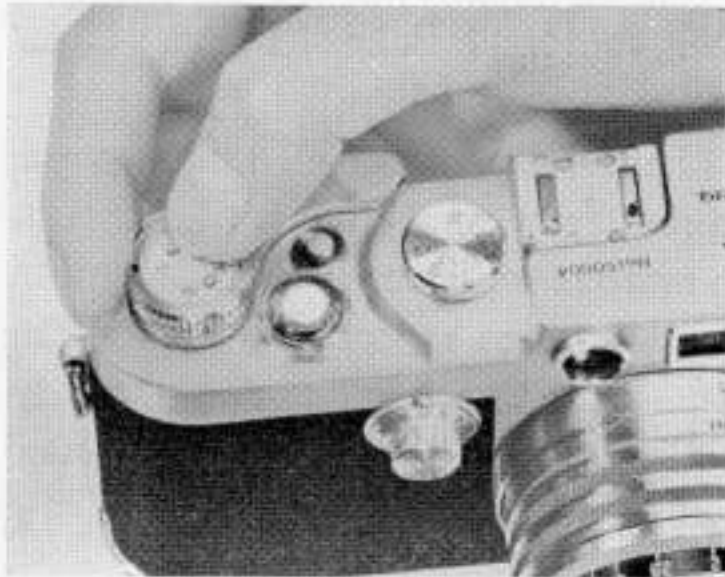

Fig. 7
- ( I ) As shown in Fig. 7 catch the lug of the exposure counting dial with your fingertip and turn it in a counterclockwise motion until the figure "1" on the exposure counting dial is set directly opposite the index mark.